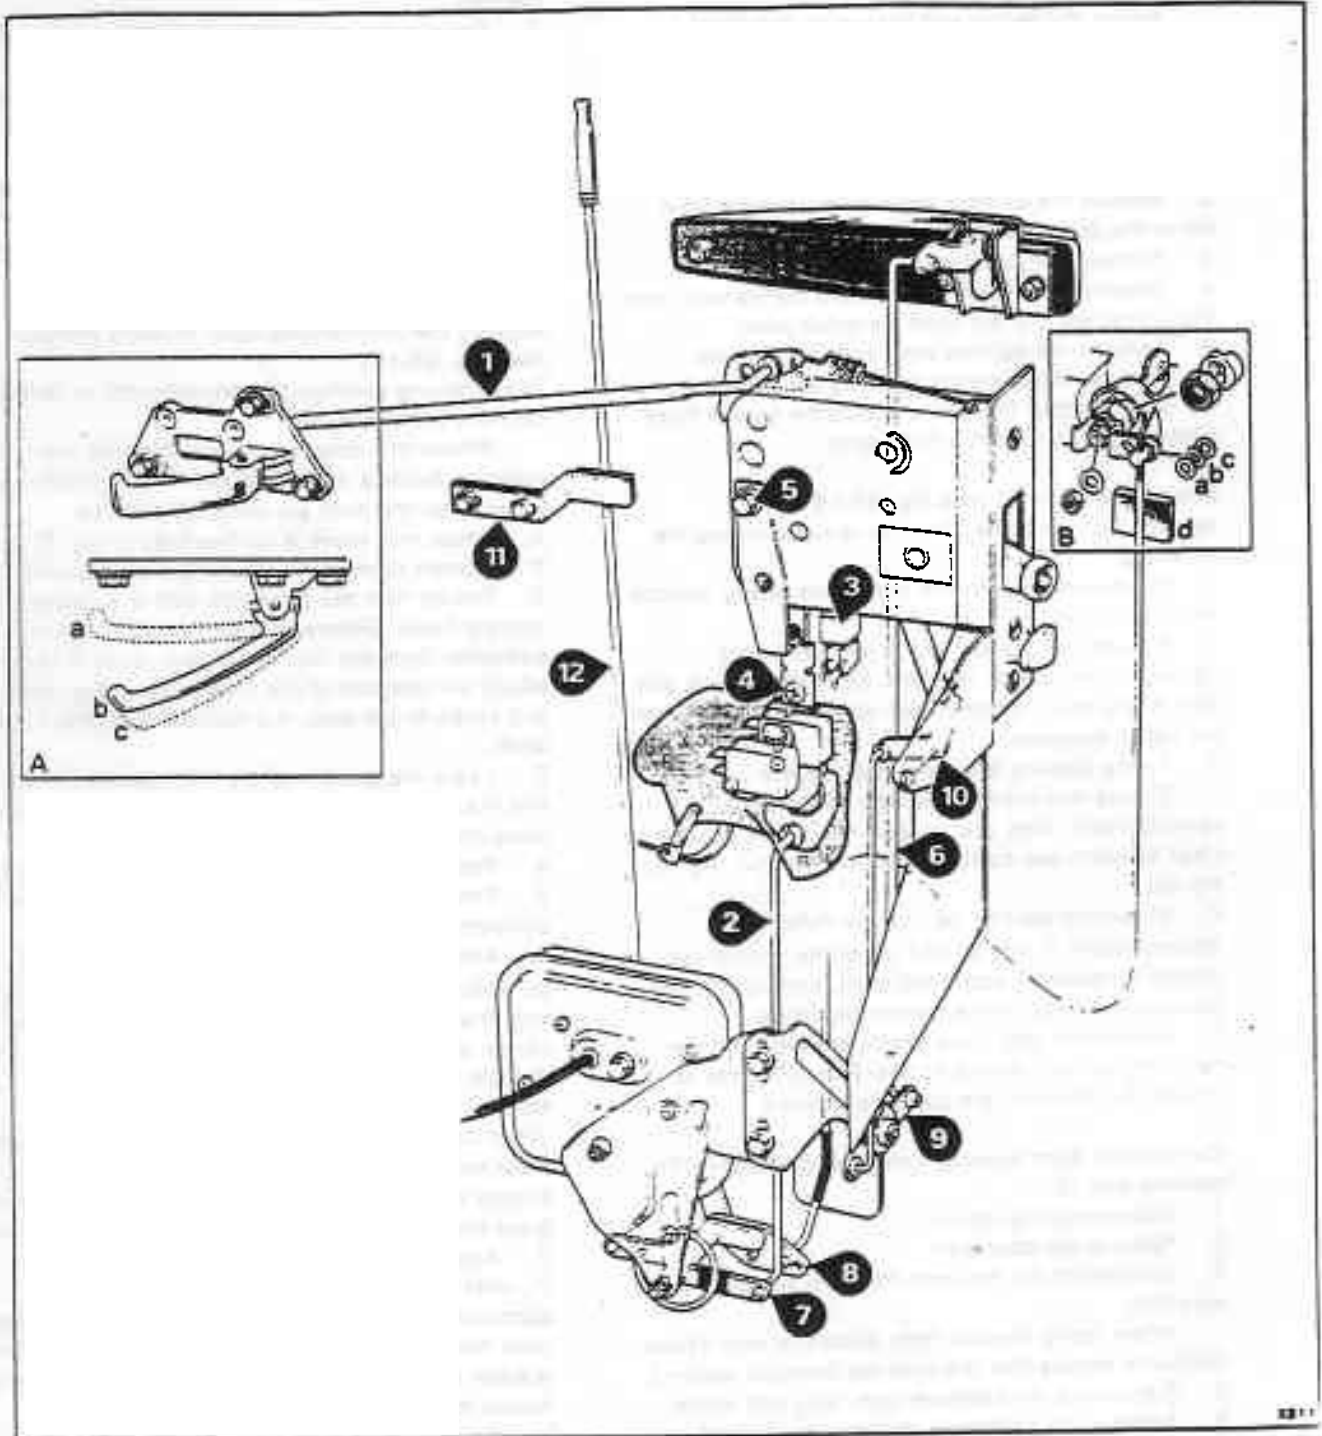

Fig. S3-16 Door locking - General arrangement
Door lock and linkage - To remove (see fig. S3-16)
2. Remove the handle by detaching the open end of the polythene bag from the door and disconnecting the remote control rod (see fig. S3-16, item 1).
6. Adjust the position of the interior door handle linkage as follows (see fig. S3-16, inset A).
Adjust the handle until there is a small amount of overtravel beyond the activation point of the lock bolt (see fig. S3-16, inset A). Tighten the securing screws.
Private lock - To remove (see fig. S3-16, B)
Private lock - To fit (see fig. S3-16, B)
2. Disconnect the control rod (see fig. S3-16, item 6) from the cross-shaft lever.